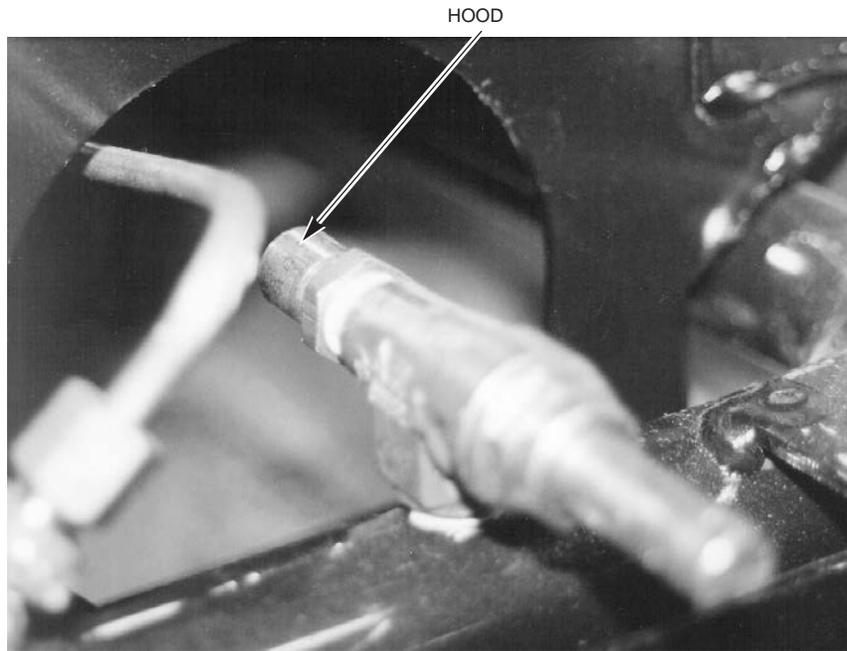

Fig. 15
3. With a 1/2" deep throat socket remove the hood. (Fig. 15)